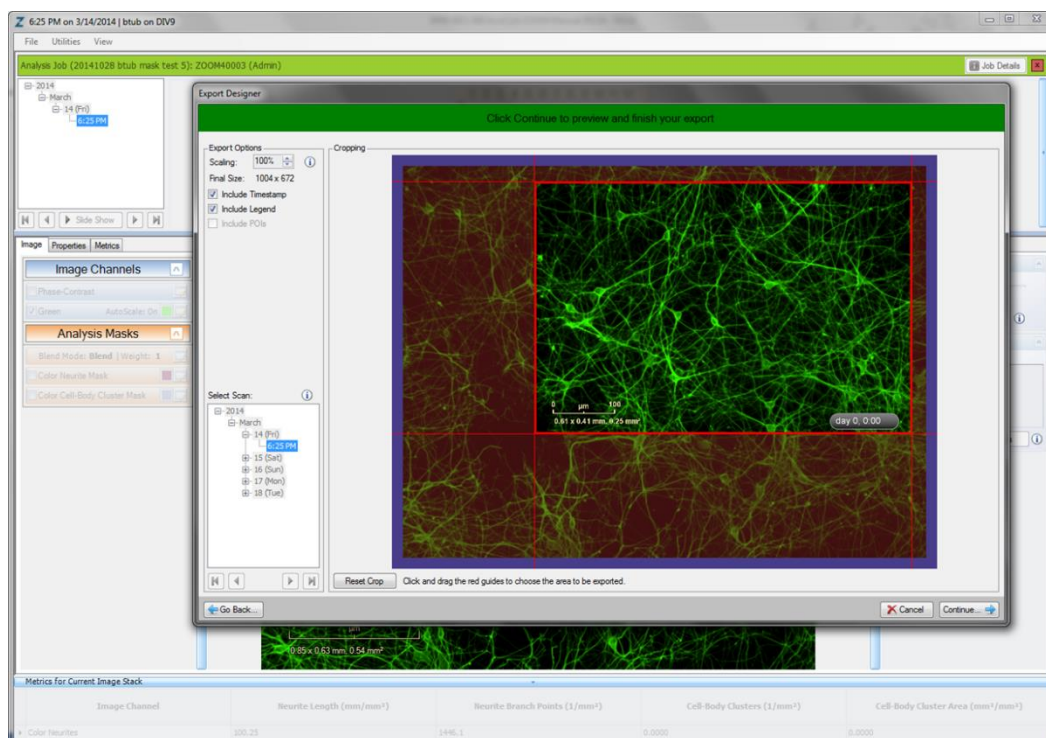

Figure 23. The Export Current Image Window with Export Designer Open
3. The “Export Designer” window will now open, allowing users to customize the export image (refer to Figure 23).
5. The “Export Designer” window will now open, allowing users to customize the export image (refer to Figure 23 and step 3 of 7.7.1.1). The designer is used to interactively crop and scale the image and to add a legend or timestamp to each image if desired. A time-tree is available within the Customization Window to allow previewing of crop settings at different time points. Select a time from the tree to view the image from that particular scan.
10. The “Export Designer” window will now open, allowing users to customize the export image (refer to Figure 23 and step 3 of 7.7.1.1). The designer is used to interactively crop and scale the image and to add a legend or timestamp to each image if desired. A time-tree is available within the Customization Window to allow previewing of crop settings at different time points. Select a time from the tree to view the image from that particular scan.